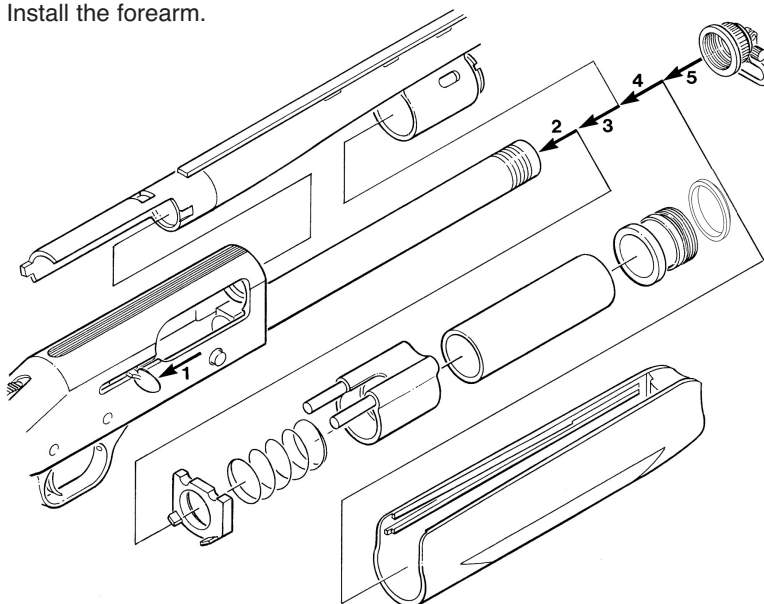

Figure 17
The gas system includes the magazine tube, seal ring\*, gas piston assembly, spacer tube, gas system return spring, and gas cylinder portion of the barrel (Figure 17). These parts should be thoroughly cleaned using solvent. A stiff brass bristle brush is useful for removing stubborn deposits.
1. Grasp the operating handle and lock the action in the “OPEN” position (Figure 17).
When interchanging barrels (combo models) or reinstalling the original barrel onto the firearm, **YOU MUST** ensure that the gas piston and seal ring\* are present on the magazine tube prior to installing the barrel (see Figure 17). If the gas piston and seal ring\* are not present on the magazine tube, remove them from the gas cylinder portion of the barrel that was on the firearm previously and place them onto the magazine tube as shown in Figure 17. Failure to do so may result in a dangerous malfunction, damage to the firearm and injury to the shooter and other persons. The firearm’s owner must accept full responsibility for the correct reassembly and functioning of the firearm after any disassembly or replacement of parts.